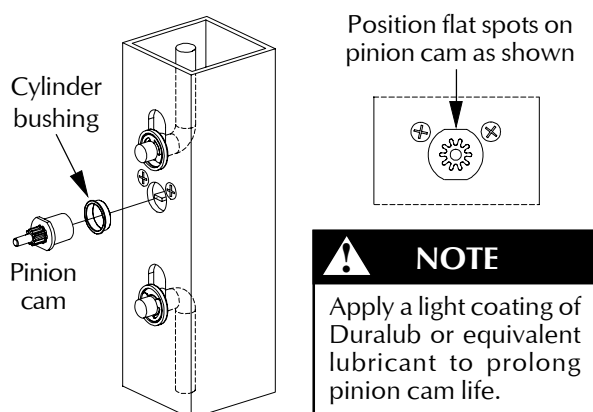

Figure 3-1
3.1. With cylinder locked and key removed, install cylinder bushing and pinion cam (Figure 3-1).